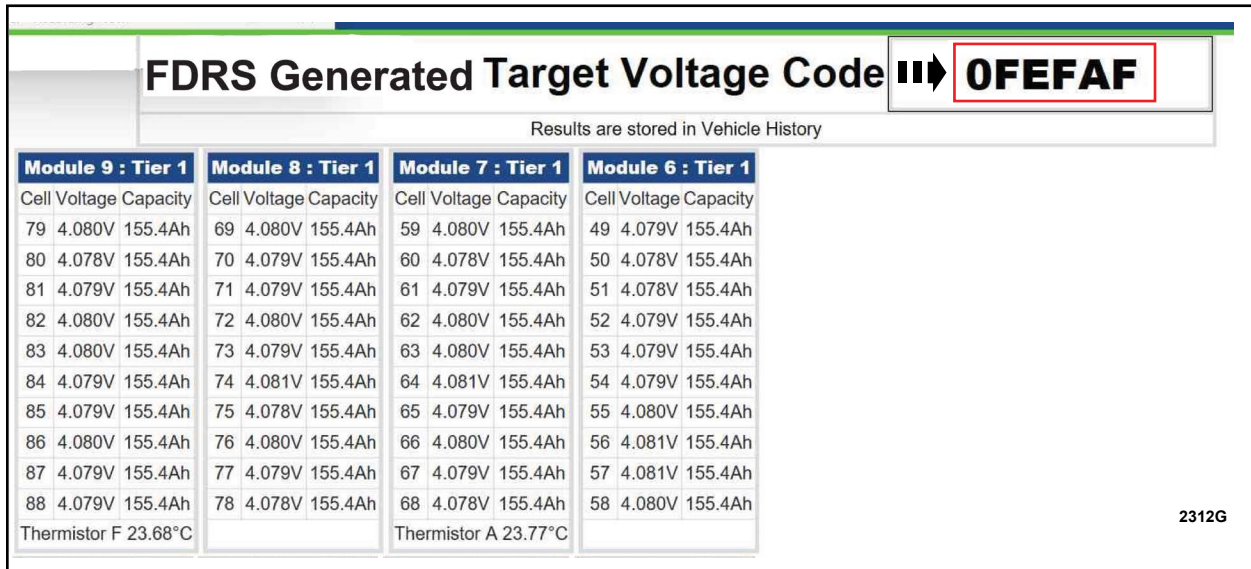

FIGURE 2
3. Follow the on-screen prompts. Capture and record the FDRS Generated Target Voltage Code. See Figure 2.